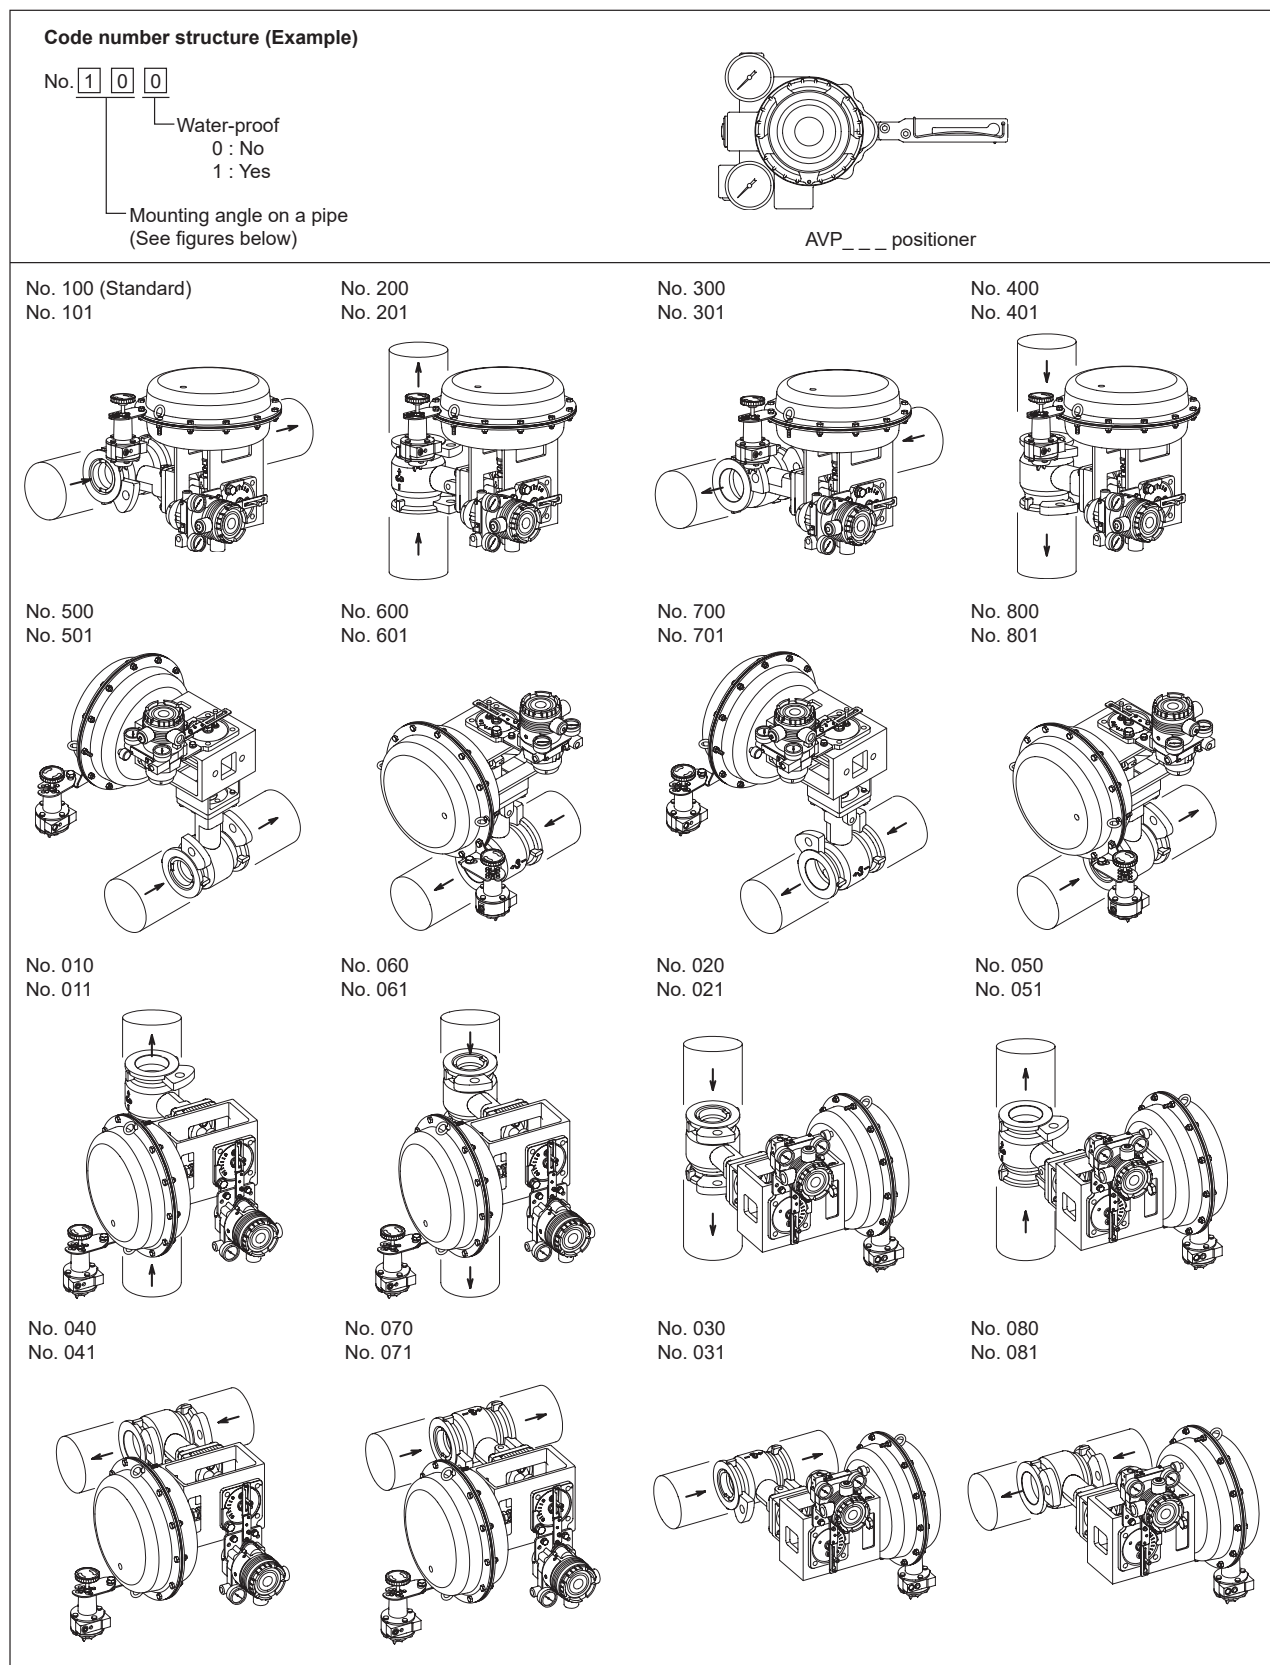

Figure 9. Mounting position of valve on process pipes (Applicable to model AVP7___/AVP3___ positioner)
6. Figure 9 shows the installation of model AVP3___. Model AVP7___ also can be installed in the same way.